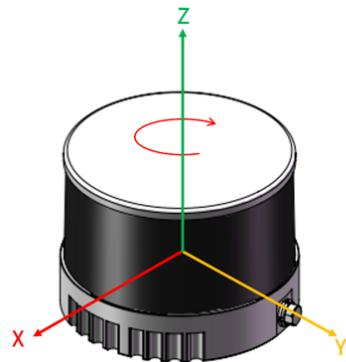
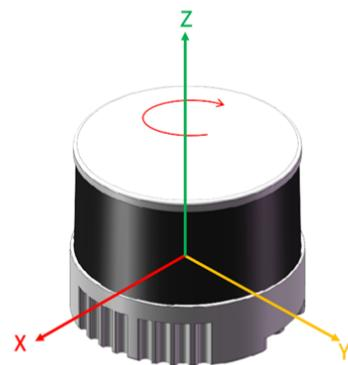

Figure 2. Coordinate system (isometric view)
Figure 4. Coordinate system (isometric view)
- The lidar's coordinate system is illustrated in Figure 2 and Figure 4. Z-axis is the axis of rotation.